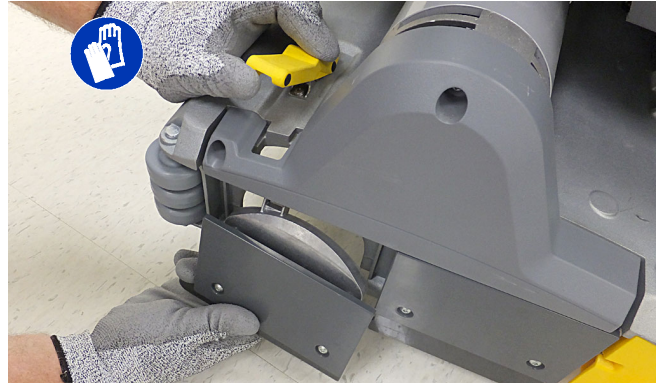

FIG. 16
2. Unfasten yellow latch and remove the idler plate from the scrub head (Figure 16).